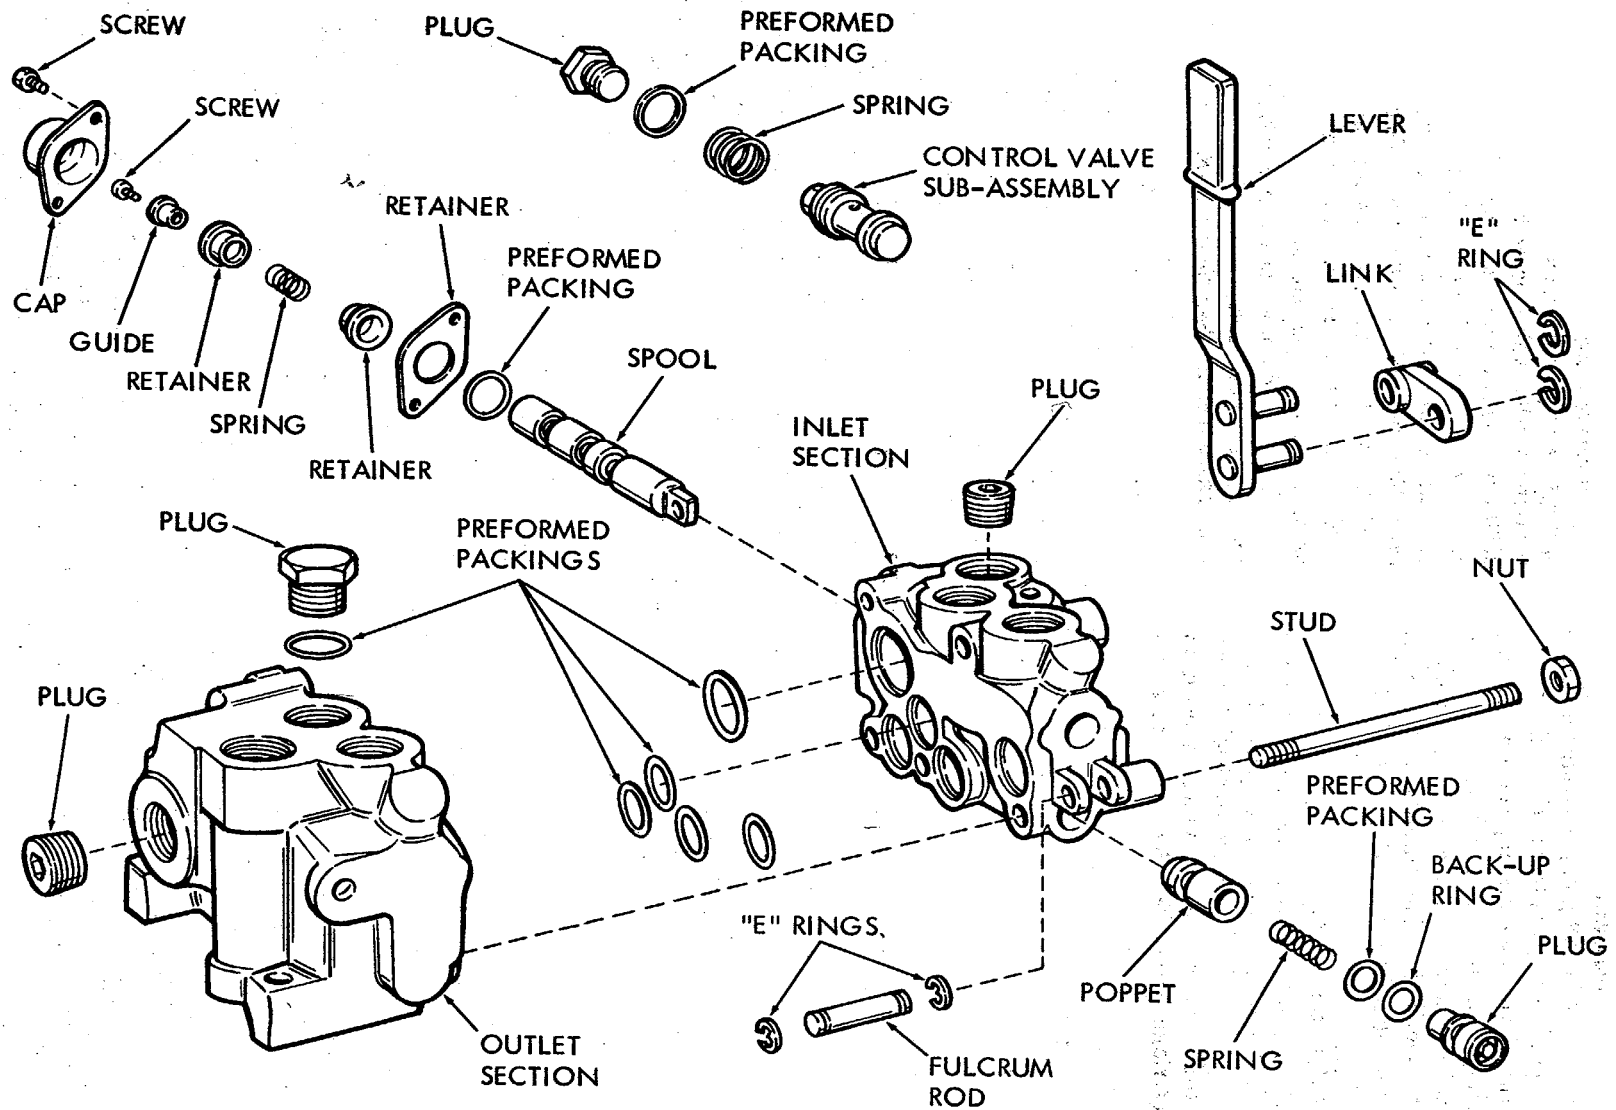

Figure 4-48. Ramp hoist control valve, disassembly and reassembly.
c. Disassembly. See figure 4-48.